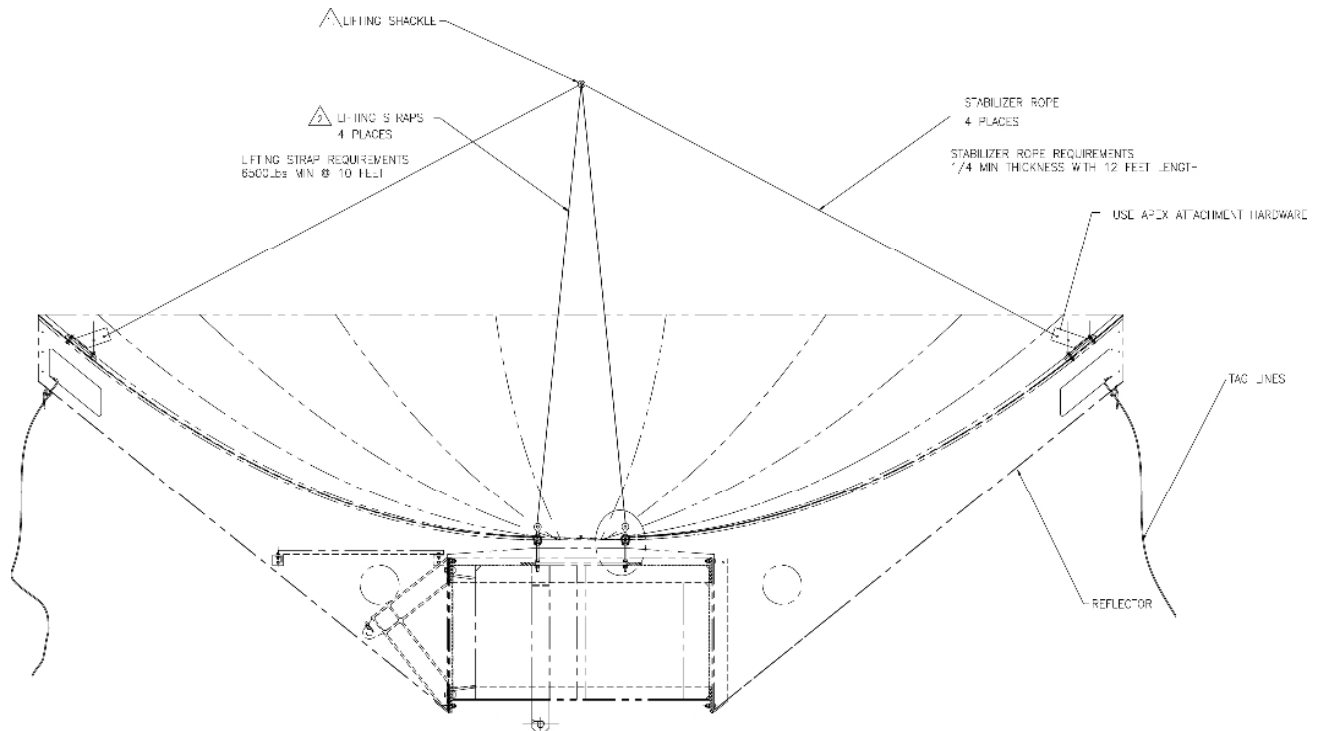

Figure 3-7. Rigging for Reflector Lift
Note: Figure 3-7 shows the reflector fully rigged for lift to the pedestal.
4. Install shackle in lug of eye bolts. (See Figure 3-7)